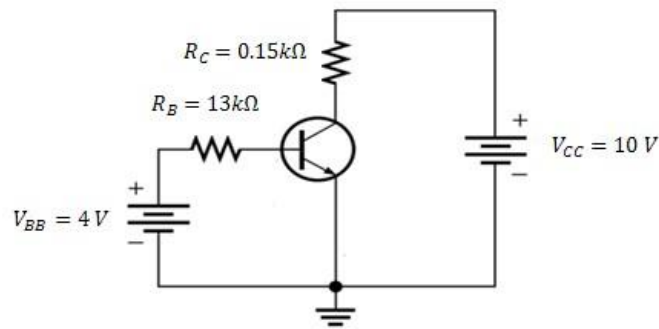

Figure 3.41
9. Figure 3.41 shows transistor with $\beta_{DC} = 120$.